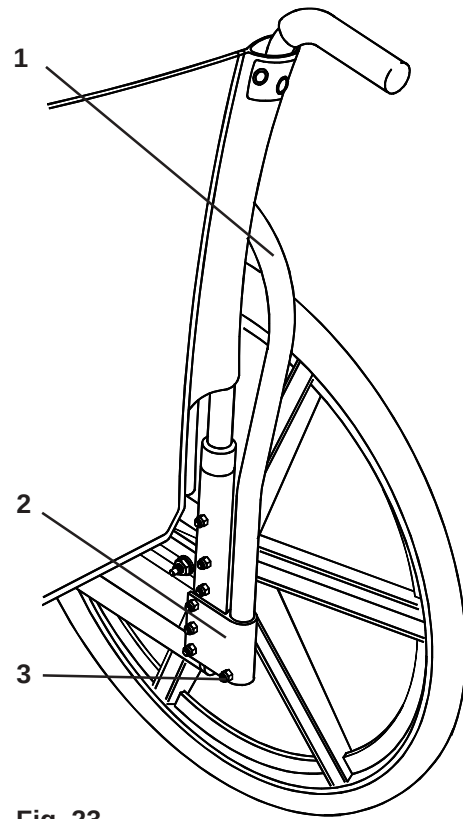

Fig. 23
Swing-away, removeable armrests (Fig. 23) are installed by sliding the armrest tube (1) into the receiver (2) on the rear frame tube, aligning the slot on the end of the tube with the screw (3). To remove the armrest simply pull upwards until the tube clears the receiver. To rotate the armrest pull upwards for approximately 25mm (1") and rotate away from the chair.